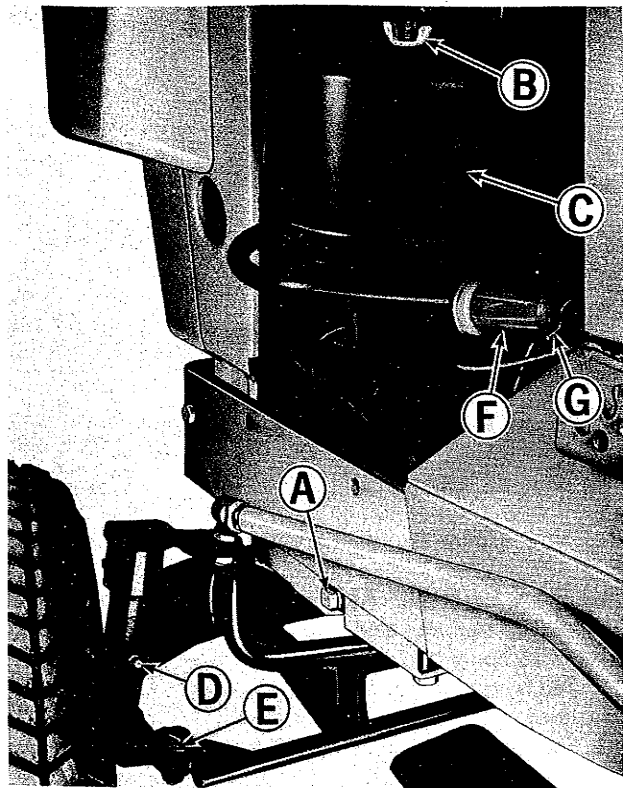

Figure 19. Left front of tractor.
2. See figure 19. Remove the drain plug (A) from the bot-
1. See figure 19. Remove the wing nut (B) and cover (C) from the air cleaner unit.
5. See figure 19. Replace the air cleaner cover (C) and fasten it securely with wing nut (B).
Left Spindle	Figure 19, Item D
Left Tie Rod End	Figure 19, Item E
1. See figure 19. Remove wing nut (B) and cover (C) from the air cleaner.
7. See figure 19. Replace cover (C) and wing nut (B) and tighten securely.
**REPLACE FUEL FILTER:** See figure 19. Every 100 hours or more often under dirty field conditions, the fuel filter (F) should be replaced. **CAUTION: DO NOT REMOVE THE FUEL FILTER WHEN THE ENGINE IS HOT, AS SPILLED GASOLINE MAY IGNITE. USE CARE WHEN REMOVING AND INSTALLING CLAMPS (G), NOT TO SPREAD THEM ANY MORE THAN NECESSARY AS THEY MAY TAKE A SET AND NOT HOLD THE HOSE TO THE FILTER PROPERLY.**